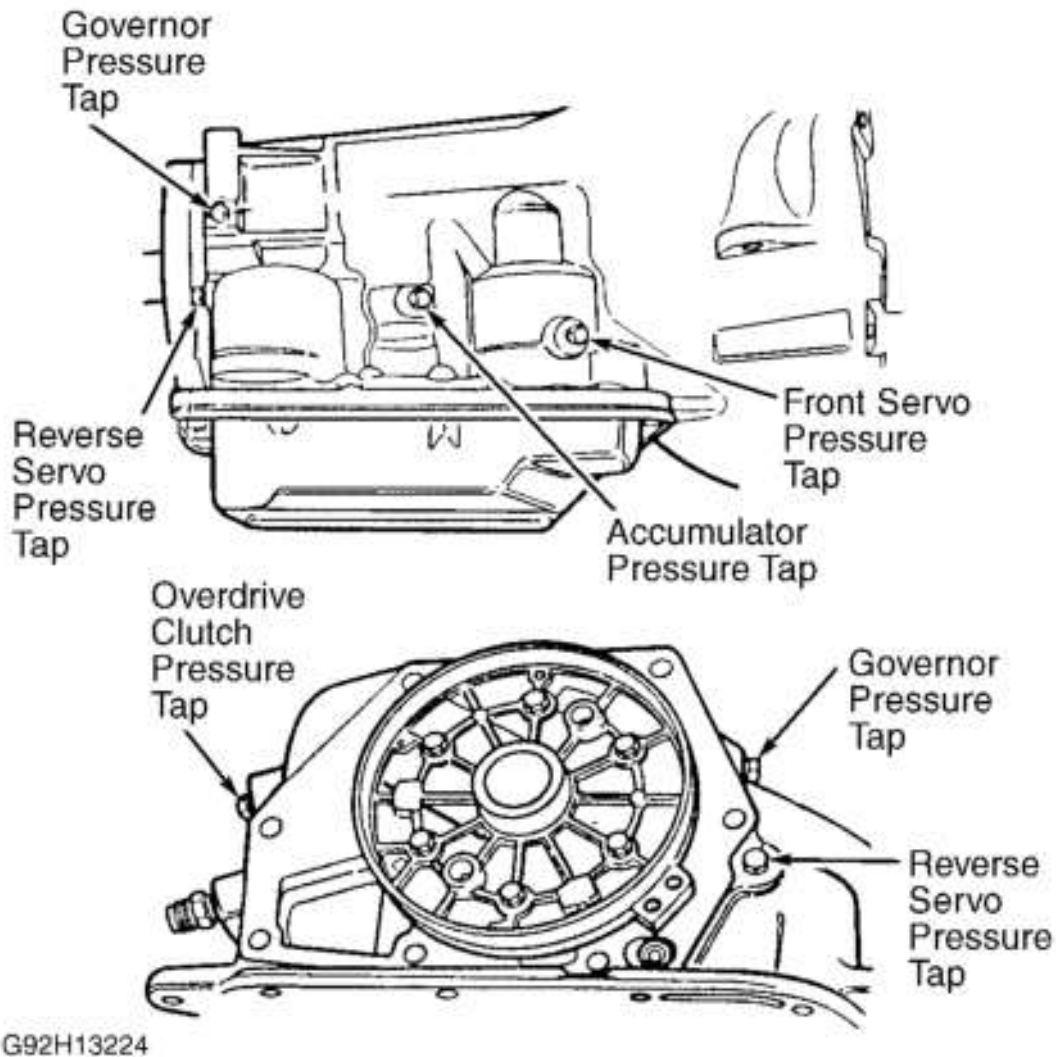

Fig. 4: Identifying Pressure Taps
1. Remove pressure tap plugs and install pressure gauge in accumulator and rear servo pressure taps. See **Fig. 4**. Start and operate engine at 1000 RPM.
1. Remove pressure tap plug and install pressure gauge in accumulator pressure tap. See **Fig. 4**. Start and operate engine at 1000 RPM.
1. Remove pressure tap plugs and install pressure gauge in accumulator and front servo pressure taps. See **Fig. 4**. Start and operate engine at 1600 RPM.
1. Remove pressure tap plug and install 300 psi (21 kg/cm²) pressure gauge in rear servo pressure tap. See **Fig. 4**. Start and operate engine at 1600 RPM.
1. Reconnect throttle valve and shift cables or linkages on manual selector lever and throttle valve lever on transmission, if removed. Remove pressure tap plug and install 300 psi (21 kg/cm²) pressure gauge in overdrive clutch pressure tap. See **Fig. 4**.
1. Reconnect throttle valve and shift cables or linkages on manual selector lever and throttle valve lever on transmission, if removed. Remove pressure tap plug and install pressure gauge in governor pressure tap. See **Fig. 4**.